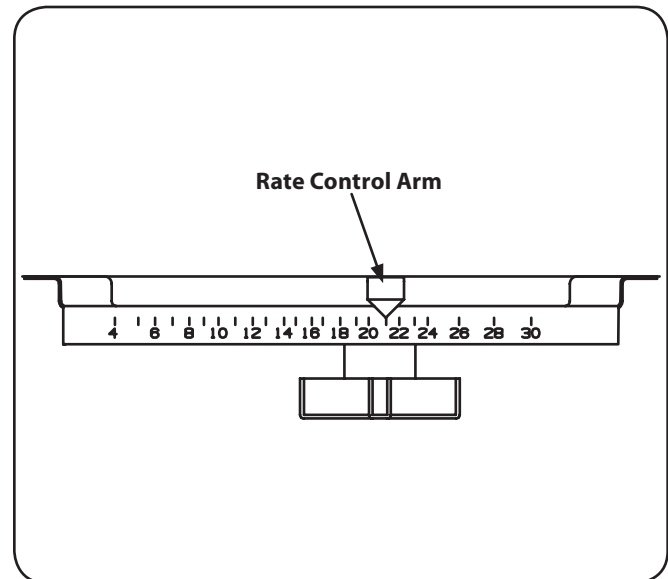

Figure 6-1
1. The approximate spreader settings printed on any product label should only be used as the initial setting for calibration. Set the rate control arm at this approximate setting. See Fig. 6-1.